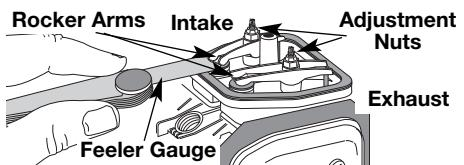

Fig. 36
- The piston is at the top of its travel while looking in the spark plug hole (Fig. 36)
- 9. Slide the feeler gauge between the rocker arm and the valve return spring. Measure the clearance between the valve stem and rocker arm (Fig. 36). Measure both the intake and exhaust valves.
a. Turn the adjusting nut using a 5/16 inch (8 mm) wrench or nut driver (Fig. 36).